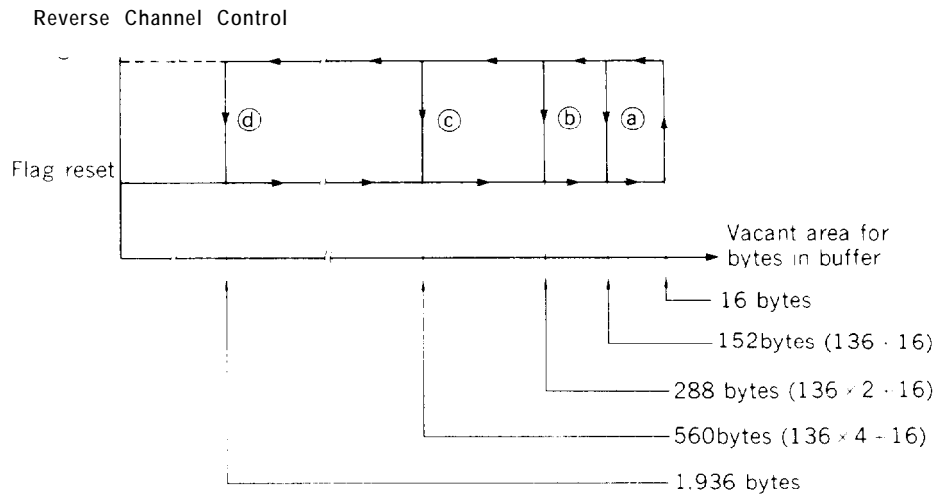

Fig. 3.6 Flag set and reset timings
a) As shown in Fig. 3.6, the flag timing is set when 16 bytes remain in the buffer. At the same time, X-OFF is transmitted and the subsequent data input is prevented. However, even when the rest of buffer is for 16 bytes, data entry is possible until the buffer is completely full (total capacity, 2 K-bytes).
As space remaining in the buffer increases, the flag is reset and X-ON is transmitted at the preselected point timing (a, b, c or d, Fig. 3.6).